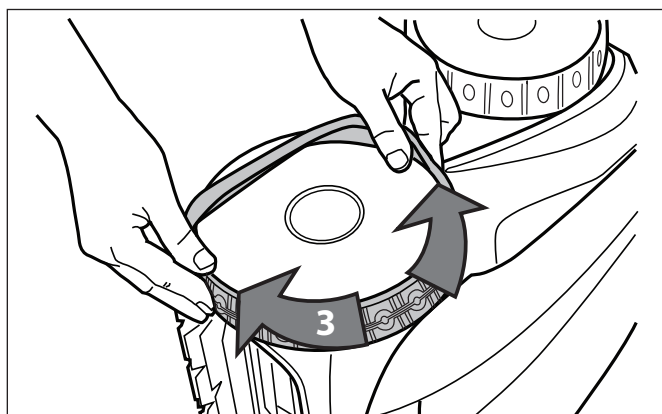

Figure 35. Work the Tire On Around the Wheel
- Work the tire onto the wheel and verify the rib of the tire is positioned properly within the groove of the wheel (Figure 35).
- Push and position the rib of the inner side of the tire in the groove of the wheel (Figure 35). If needed, turn the wheel gently to help with